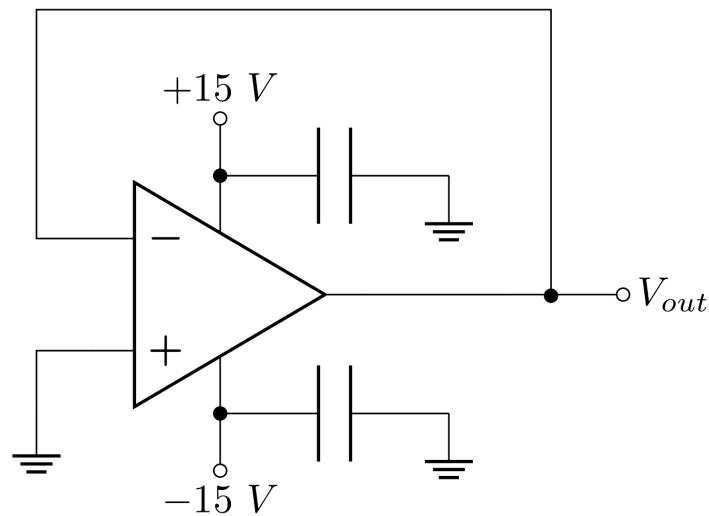

Figure 6: Schematic of a voltage follower with the input grounded
1. You can save yourself some frustration by testing your op-amp chips to make sure they are not burned out. Connect the op-amp as a grounded-input **voltage follower** with the (positive) input grounded (see Figure 6). What is the predicted voltage on pins 2, 3, 4, 6 and 7 using the Golden Rule model? Measure and record the measured voltages on these pins. If your predictions do not match your measurements check your connections to the chip to find the problem. Make sure your predictions match your measurements before going on.